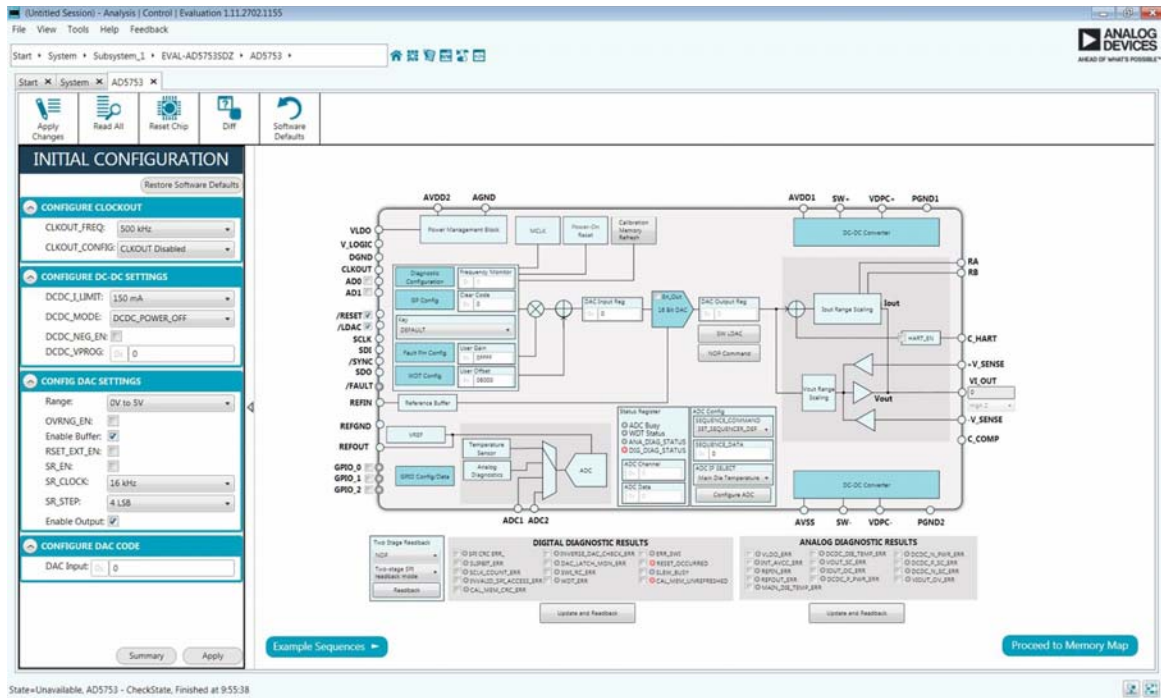

Figure 7. AD5753 Block Diagram in ACE Software
- Double-click EVAL-AD5753SDZ to open the AD5753 block diagram (see Figure 7). The INITIAL CONFIGURATION menu appears on the left side of the window. Several register settings can be configured under this menu, and are written to the device in the appropriate order. The DIG_DIAG_STATUS, RESET_OCCURED, and CAL_MEM_UNREFRESHEDLED indicators are highlighted red. Write the initial configuration values to clear the error flags. If the device is power cycled, or if the USB cable is disconnected and reconnected while the ACE software is open, contact with the EVAL-AD5753SDZ is lost. If contact is lost, click the System tab, click the USB symbol on the EVAL-AD5753SDZ, and then click Acquire to restore communication with the EVAL-AD5753SDZ.